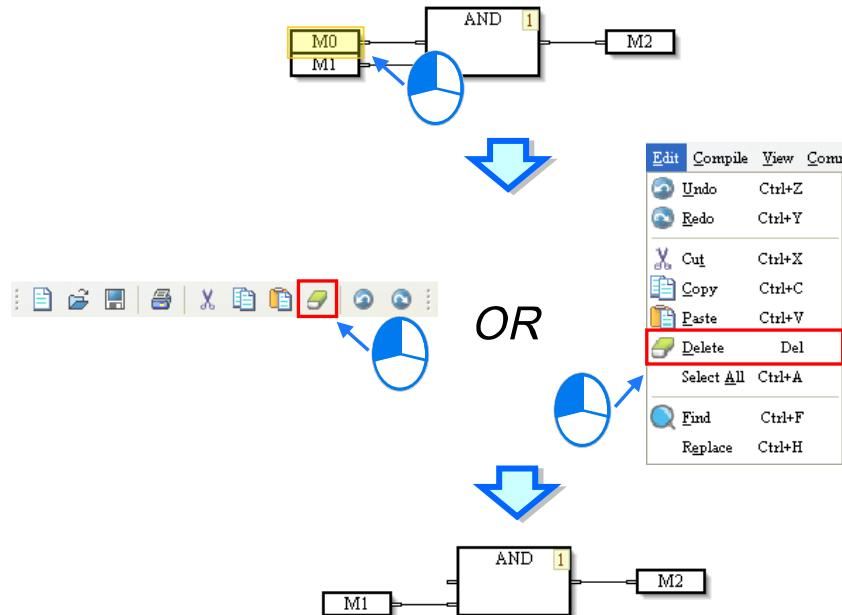

Figure 12-33 Deleting an object
- (1) The users have to click an object, and click **Delete** on the **Edit** menu, or on the standard toolbar, as shown in figure 12-33.